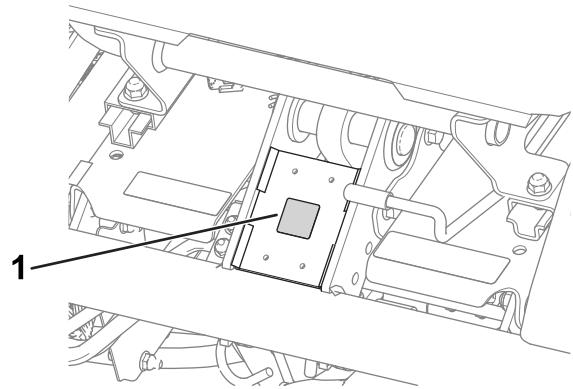

Figure 15
- Apply the CE mark decal to the frame under the front of the seat (Figure 15).